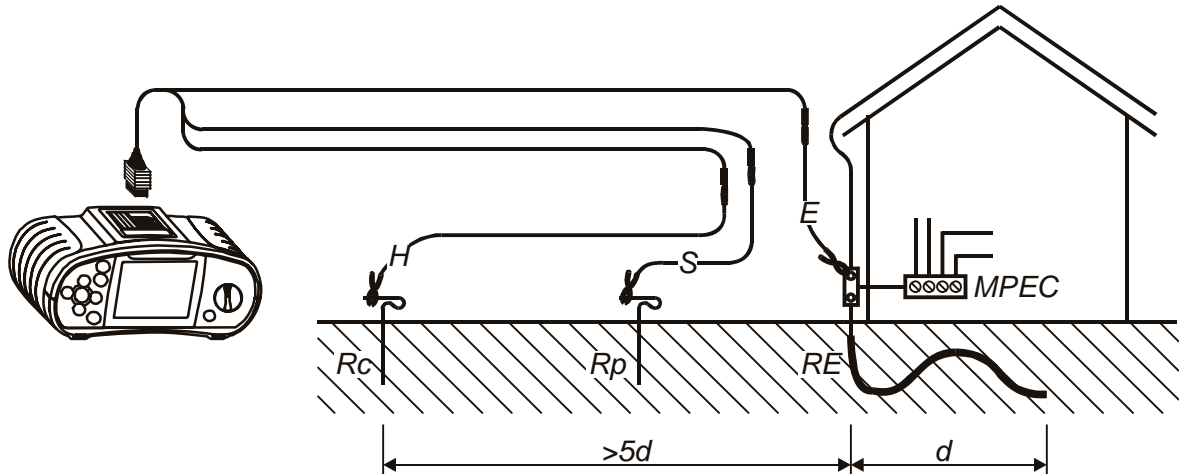

Figure 5.40: Connection of standard 20 m long test leads
- The probe (S) is positioned between the earth electrode (E) and auxiliary earth electrode (H) in the ground reference plane (see figure 5.40).
- The distance from the earth electrode (E) to the auxiliary earth electrode (H) should be at least 5 times the depth of earthing electrode rod or the length of the band electrode.
Step 3 Connect the leads to the instrument and follow the connection diagram shown in figure 5.40 to perform a resistance to earth measurement. Use the **Help** function if necessary.